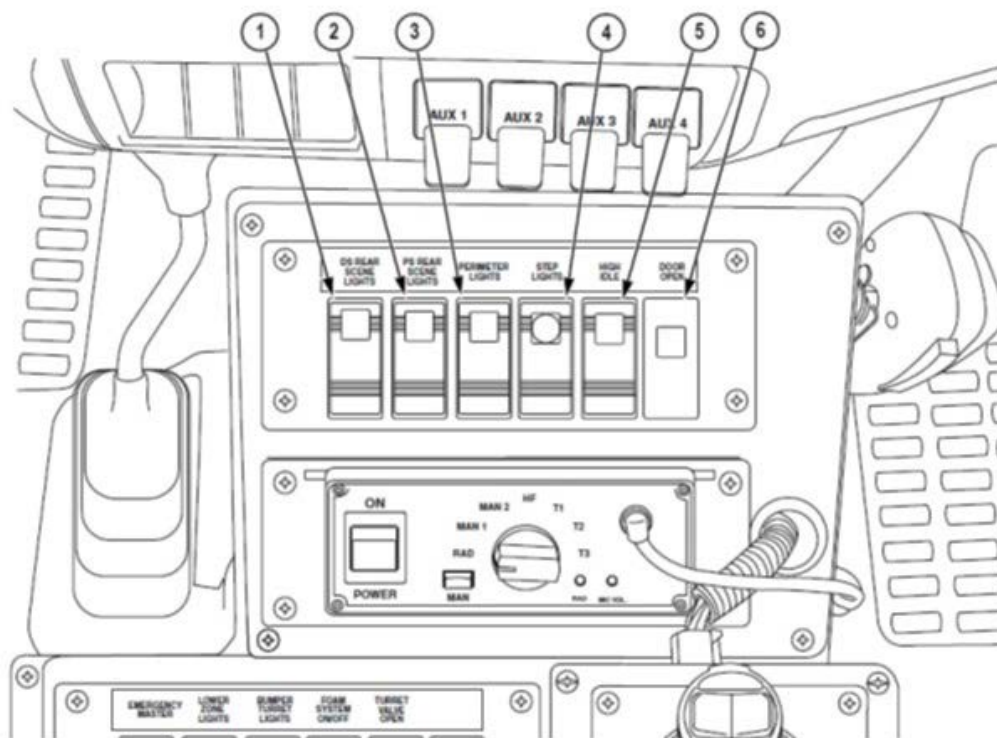

Figure 5-7. Switch bank.
1. **SWITCH BANK.** Houses various lighting controls, high-idle switch, and door open warning light (fig. 5-7).